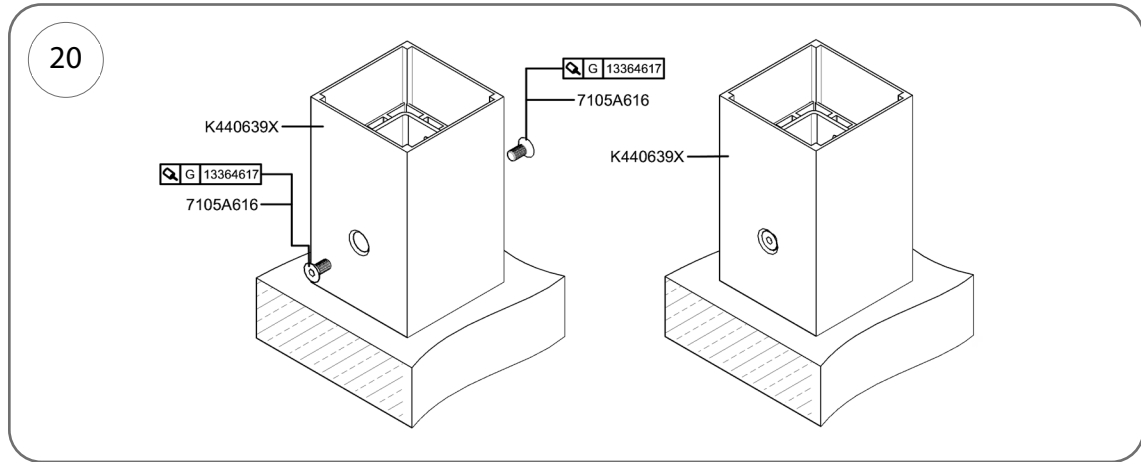

Fig. 20
1. Each post, cat. no. K440639X, should be screwed to the bracket with 2 Allen screws, cat. no. 7105A616 (M12 x 30 mm), and the screws should be coated with thread sealant, cat. no. 13364618 (fig. 20).